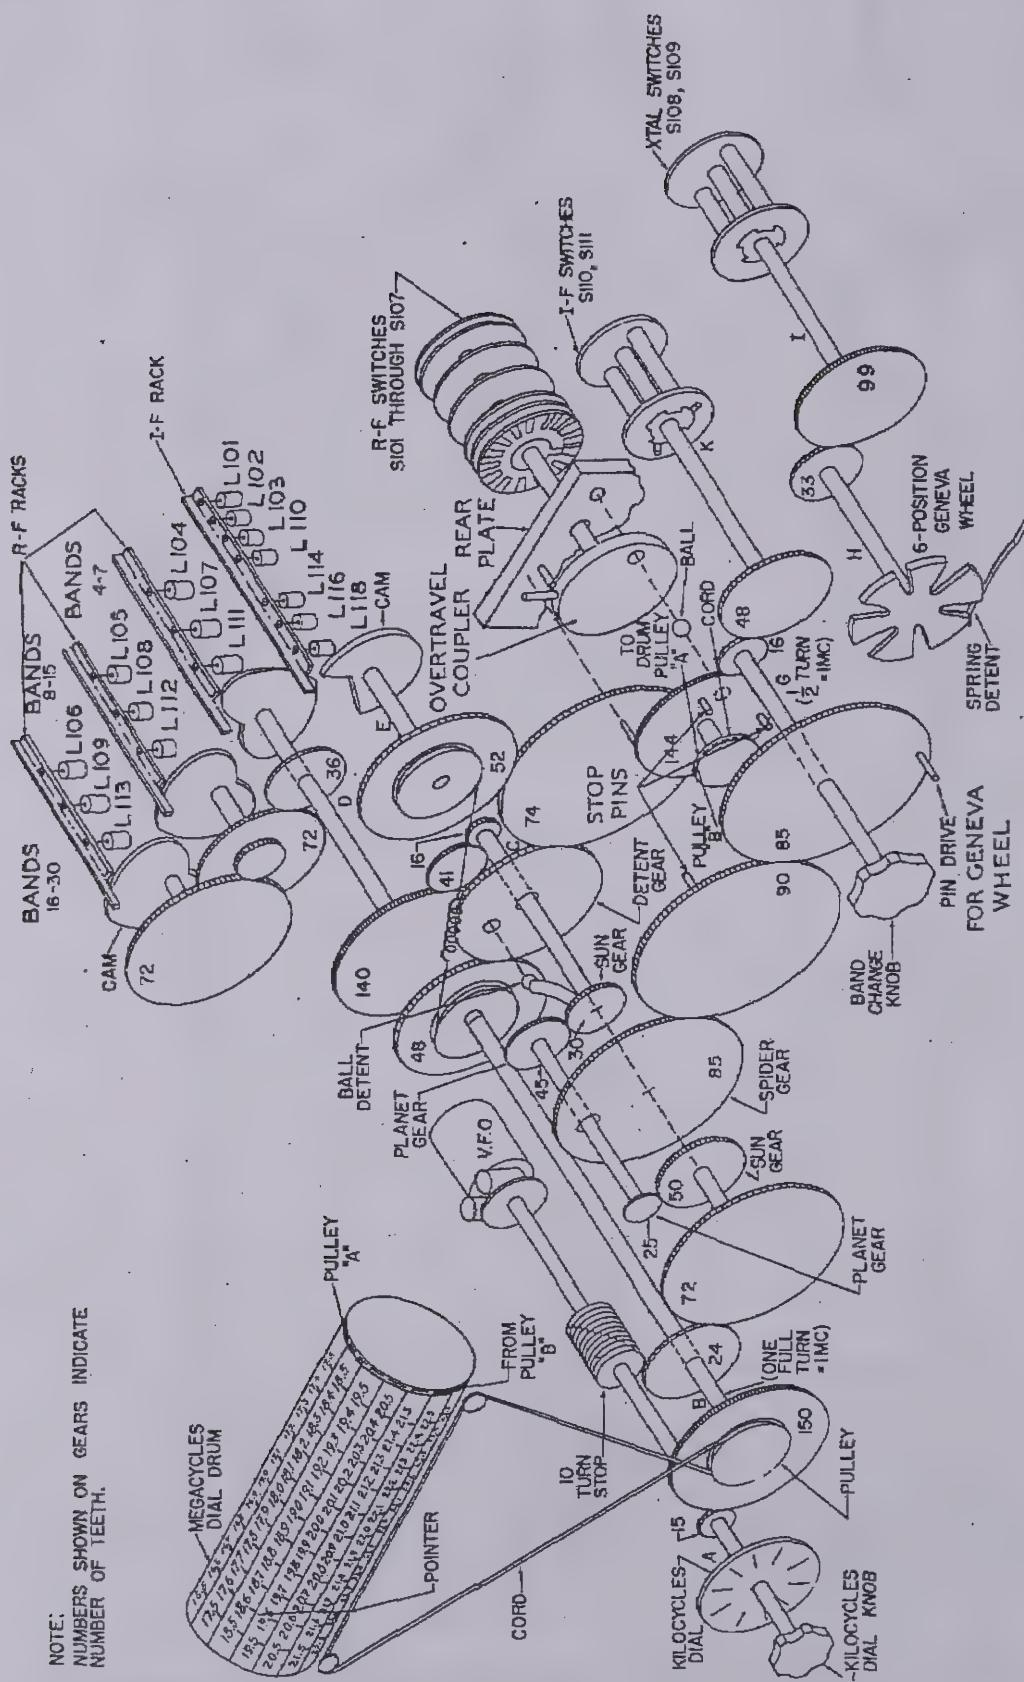

Figure 4-2. 51J-3 Mechanical Block Diagram
Switch sections of the band switch are ganged with the BAND CHANGE knob through an over-travel coupler. This over-travel coupler drops the band switch at band 16 while the r-f slug tables continue to operate one position for each band as usual. Refer to figure 4-2. This mechanical diagram shows the gears and connecting shafts associated with band change and tuning. Shafts associated with changing bands are C, D, G, H, I, K, and the over-travel shaft. On band 1 radio frequency coils L101 and L110 are switched by means of the BAND
4.1.2. TUNING. - All r-f, mixer and variable i-f coils, as well as the variable frequency oscillator coil, are permeability-tuned by powdered iron cores. While tuning, these slugs move in and out of the coils at a rate determined by a cam or by a lead screw. Four slug racks or tables are used in the 51J-3 receiver to perform the function of tuning the r-f, mixer and variable i-f stages. The group of three slug tables in the rear portion of the chassis tunes the r-f and first mixer stages when the receiver is operating in the 3.5 to 30.5 mc frequency range (bands 4 to 30). The fourth slug table, located at the right hand edge of the receiver, tunes the r-f stage, the first mixer grid, the third mixer grid and the variable i-f coils when receiving in the range 0.5 to 1.5 mc. It tunes the r-f stage and variable i-f coils L116 and L118 when receiving in the range 1.5 to 2.5 and 2.5 to 3.5 mc. When receiving in the range 3.5 to 30.5 mc, this slug table tunes only the variable i-f coils L116 and L118. During tuning, positions of the slug tables are varied by a system of gears and cams; see figure 4-2. On band 1 (0.5 to 1.5 mc) coils L101 and L110 are tuned through this frequency range by the main tuning knob through shafts A, B, C and E. On bands 2 and 3 (2.5 to 1.5 and 3.5 to 2.5), tuning is done by the main tuning knob through the same shafts -- A, B, C and E. On band 4 to 7, the main tuning knob tunes coils L104, L107 and L111 over one-fourth of their tuning range through shafts A, B, C and D and the differential shafts. The BAND CHANGE knob moves this same rack through shafts G, C, D, and the differential in four steps. Each step is equal to one-fourth of the coils' tuning range and the shafts are positioned by means of the detent. Thus L104, L107, and L111 are tuned in one megacycle steps by the BAND CHANGE knob, and between these steps are tuned by the main tuning knob. On bands 8 to 15, coils L105, L108, and L112 are tuned through shafts A, B, C, D and the differential. Bands 16 to 30 are also tuned through shafts A, B, C, D and the differential. Each of the two variable frequency i-f channels covers one megacycle range and is tuned by means of the main tuning knob through shafts A, B and E. The proper channel is selected by the BAND CHANGE knob through shafts G and K.